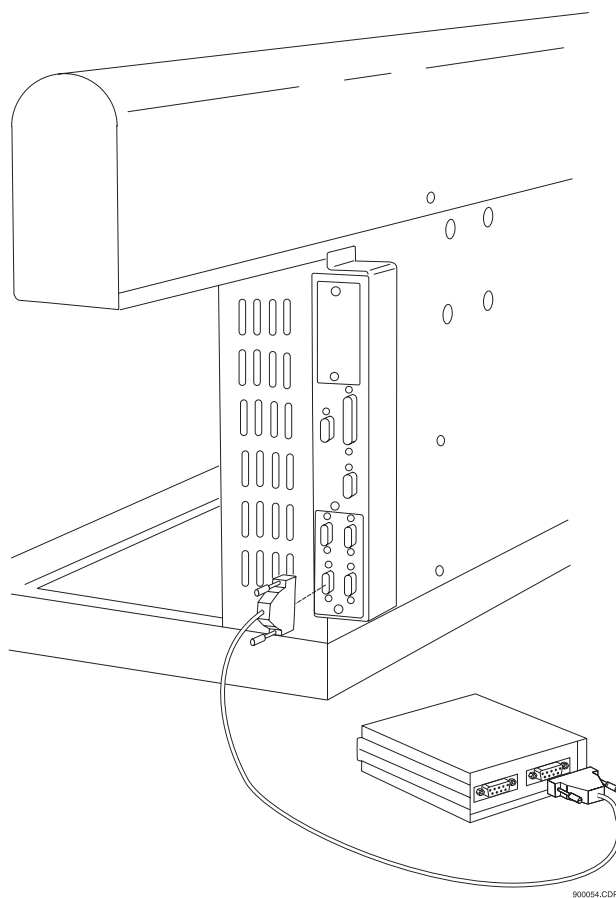

Figure 3: Connecting the Side Loader Control Module
5. If you are installing a Side Loader, connect the Side Loader Control Module to one of the remaining ports on the Biomek workstation. Avoid using Port 3 if possible. See Figure 3.